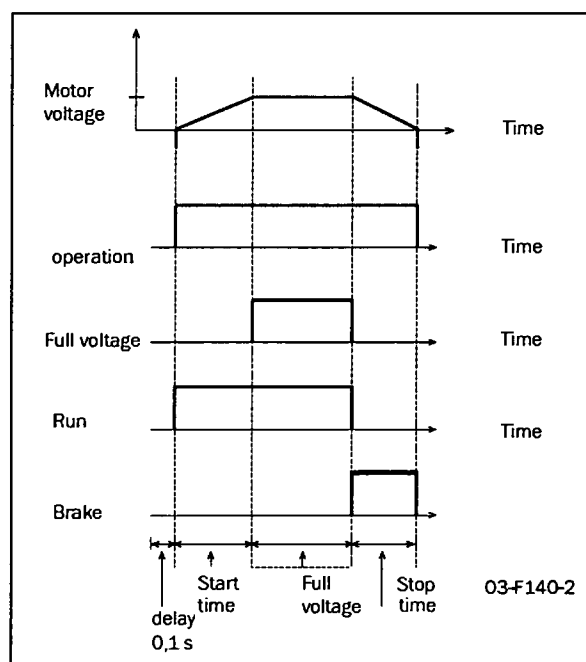

Fig. 61 The relay functions for operation, run and full voltage.
The relays can be used to control mains contactors or a bypass contactor or to indicate alarm conditions. As illustrated in Fig. 61 overleaf, the Operation setting (alternative 1) should be chosen to activate the mains contactor both during start, full voltage operation and stop. If a by-pass contactor is used, this can be controlled by a relay with the setting Full voltage (2). The settings Run (5) and Brake (4) are used when reverse current brake is chosen as stop method. In this case one relay has to be configured for Run and will control the mains contactor during the start and during full voltage operation. Another relay has to be configured for Brake and will control the contactor with reversed phase sequence during braking. For security reasons the relay configured for Brake will not be activated until after a time delay of 500 ms after deactivation of the relay configured for Run.